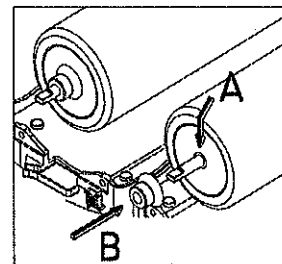

Fig. 19
Lubricate the surface of the cylinder in the zone of the transmission shaft outlet as shown by the arrow (A). (Fig. 19)
Place the spiral blade basket lubricating both the internal and external part. (see arrow B - Fig. 19)